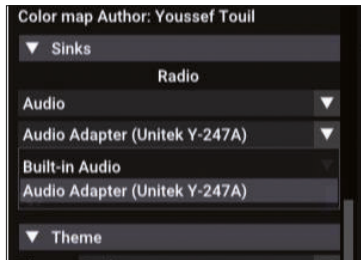

Figure 9.8: Select your audio adapter.
- Click **Audio** and select **Audio Adapter** (Figure 9.8). Note that if you select the **Built-in Audio** then the sound will be output from your monitor.